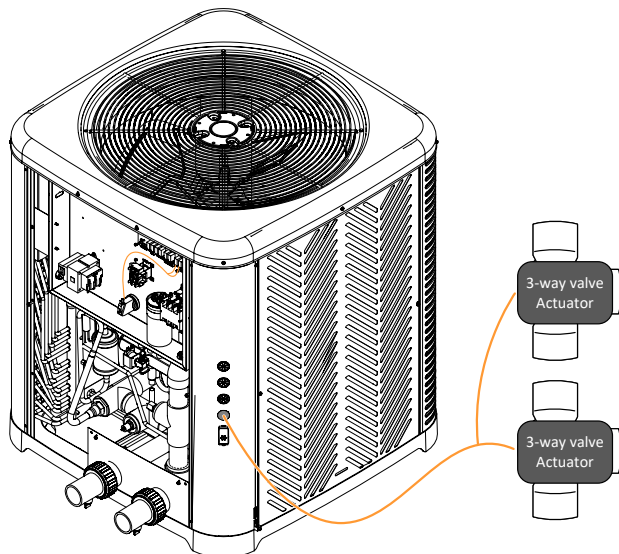

Figure 133. Wiring Valve Actuators
1. Follow the general instructions for wiring external devices to connect the valve actuator(s) harness from the valves to the control board of the heater. See Figure 133.